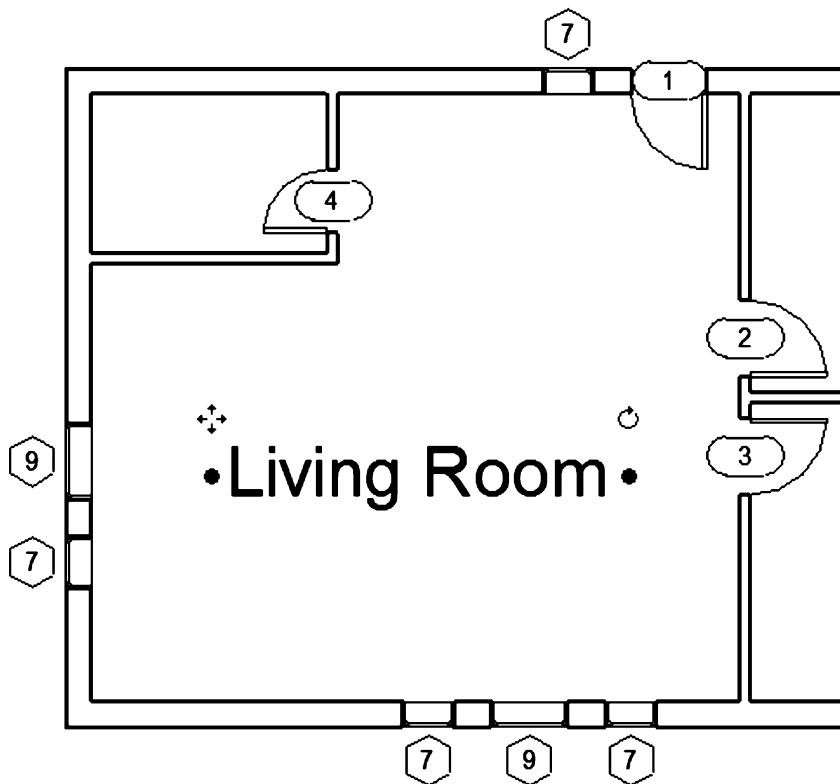

FIGURE 2-5.3 Placing text
4. You will now place the words “Living Room.” **Click** within the living room area to place the text (Figure 2-5.3).